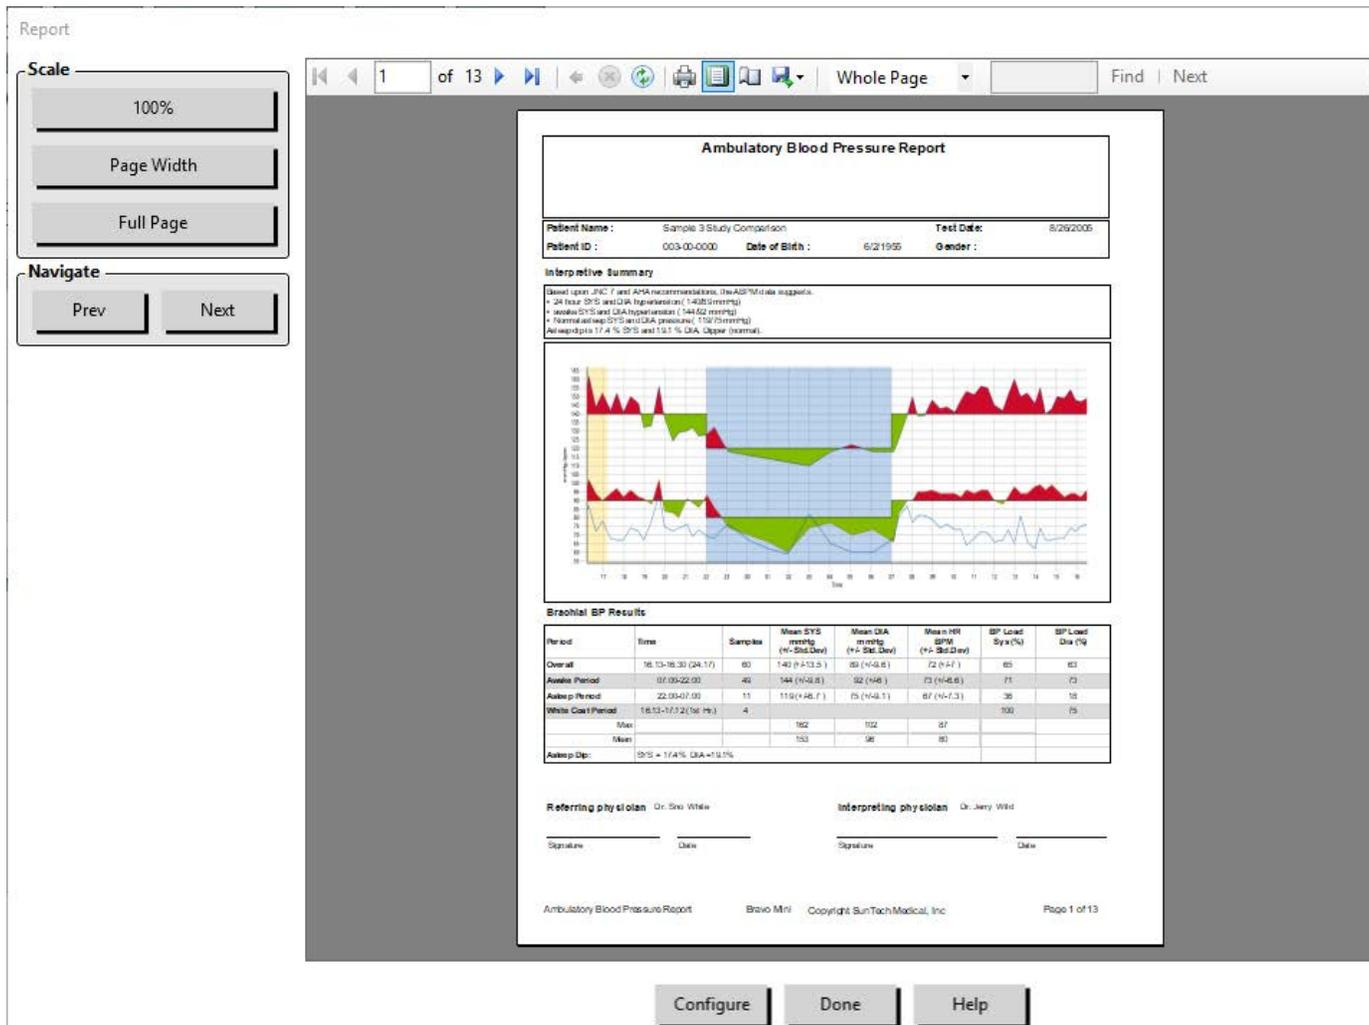

Figure 28: Report Print Preview
1. From the **Report** menu, select **Preview**. Alternatively, click the **Print Preview** toolbar button. The Print Preview window is displayed (Figure 28).